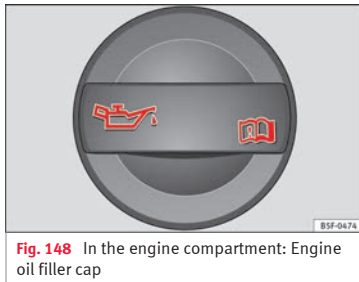

Fig. 148 In the engine compartment: Engine oil filler cap
- Unscrew cap from engine oil filler opening » **Fig. 148**.